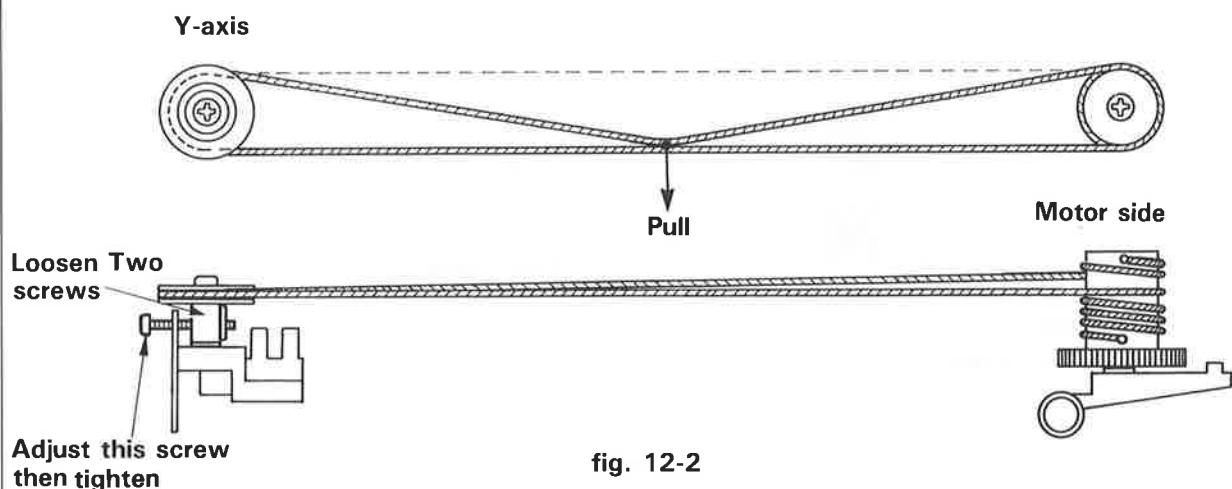

fig. 12-2
2). When pull the gauge horizontally and softly till either wires to touch the other, an adequate tension is about 400 grammes in case of DPX-3300, 800 grammes in case of DPX-2200. (see fig. 12-2)